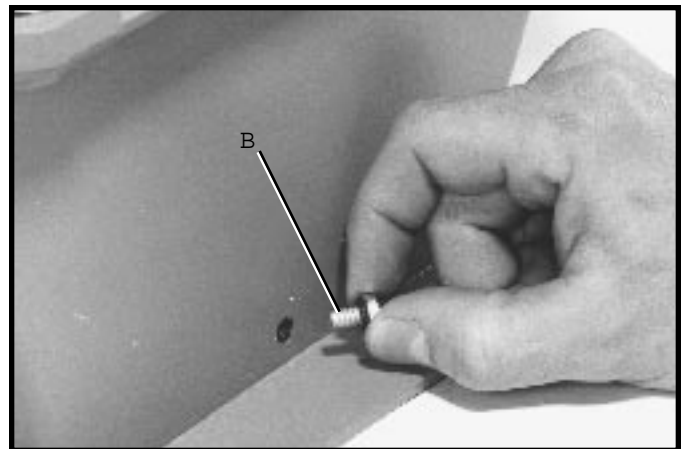

Fig. 16
A drain screw (B) Fig. 16, is provided in the grinder base to remove the water.